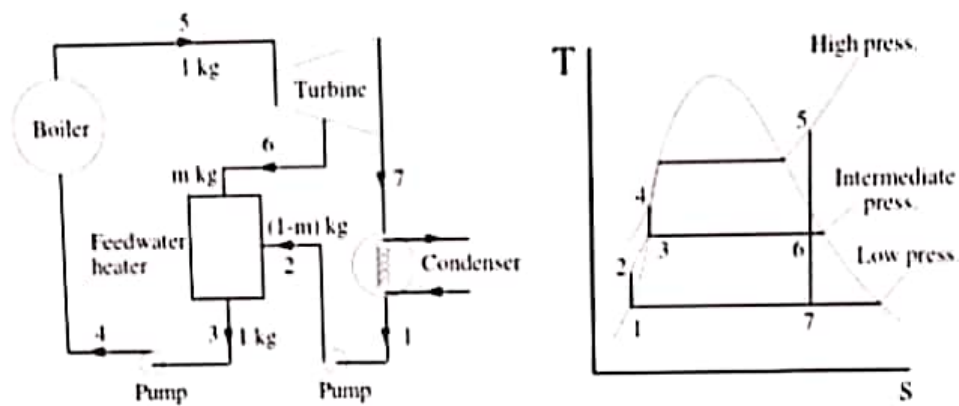

Figure 8.9 Regenerative cycle with open feedwater heater
The steam extracted from the turbine at state (6) between the boiler pressure and the condenser pressure is mixed with the water from the condenser. Thus the water pressure at the condenser exit should be increased by a pump in order to mix with the extracted steam. Another pump is required at the exit of the feedwater heater to increase the water pressure to the boiler pressure. Therefore, the feedwater heater requires two pumps for operation as shown in Fig. 8.9.
A regenerative cycle using one open type feedwater heater is shown in Fig. 8.9 below. The ratio between the bled steam to the total steam flow rate is called "m". Then:
The flow diagram per 1 kg of total steam flow rate is also shown in Fig. 8.9.